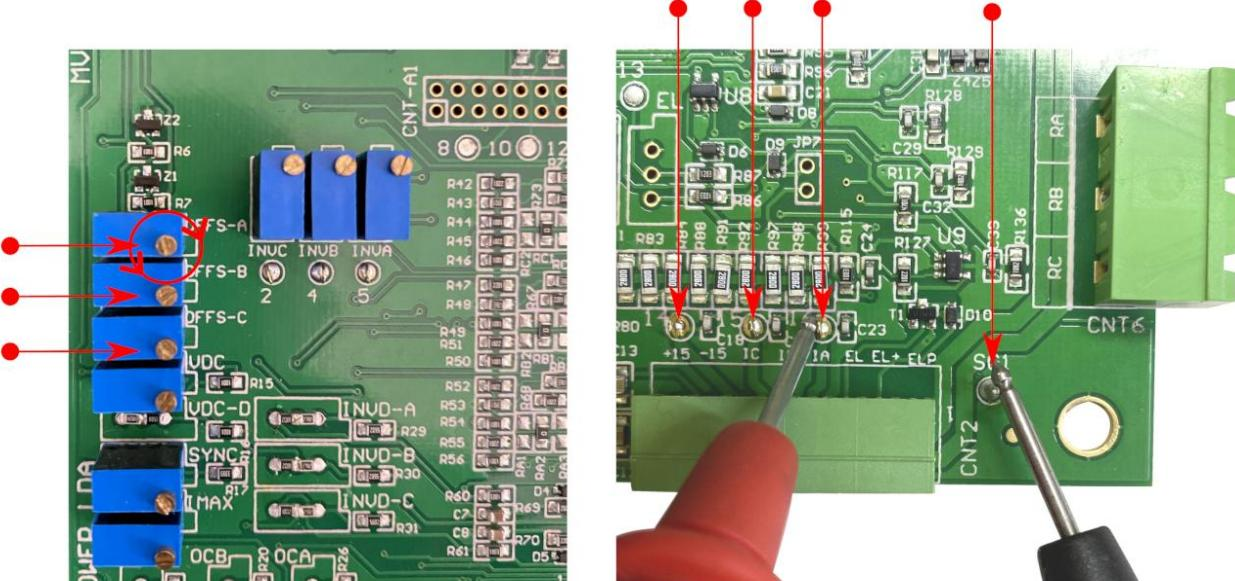

Figure 32 – Offset adjustment
If, without the presence of a load, the equipment is emitting a loud noise like a high-pitched sound, it means that the DC current offset shifted to a higher value than +/-10 mVDC. With the equipment running: On the PCB MVA FDB 3PH (Annex II – **Components**, for PCB location (37)), with a voltmeter on a mV scale and DC mode, measure between ground and TP 14, TP 15 and TP 16 for Phase C, B and A respectively. If above +/-10mV, adjust to a value between -10mV and +10 mV, using a proper trimpot adjust key or alternatively use a small screwdriver on the trimpots OFFS-A, B and C (Figure 32).